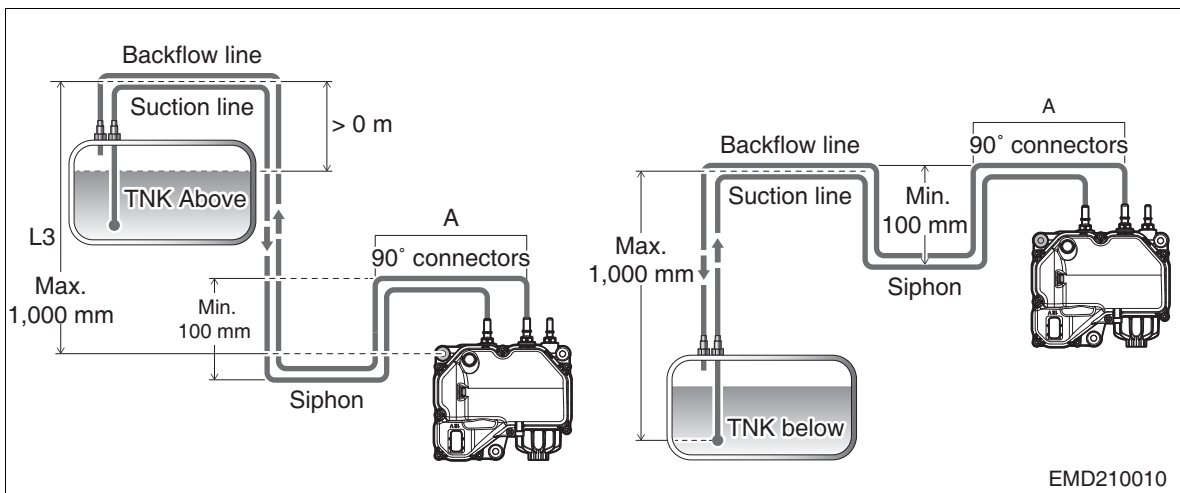

Fig. 5 The position of Supply module against Urea tank
- If a HD Construction Equipment DEF tank is not used, the location of the DEF tank and pump should be satisfied as in the following figure. If the DEF tank is higher or lower than the DEF pump, the supply module and dosing module should be installed within 1,000 mm, respectively. In addition, the siphon of at least 100 mm should be created in the DEF pump to prevent the freezing of the DEF pump. (Refer to Fig. 5)